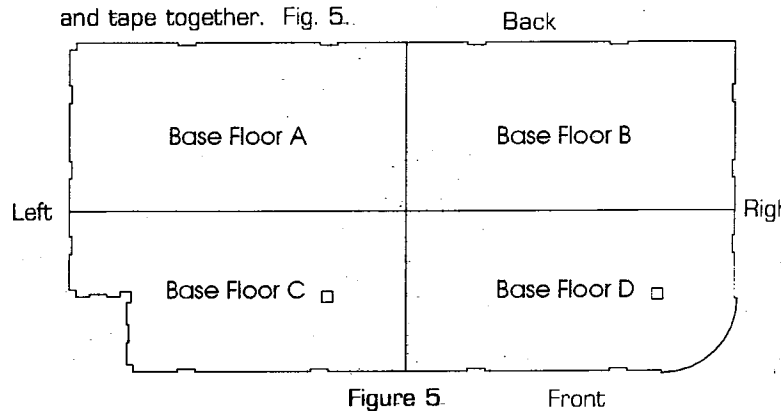

Figure 5
2. Position Base Floor A,B,C and D good side up and tape together. Fig. 5.